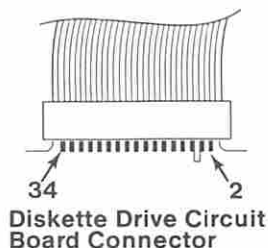

Figure 17. Voltage Check
- Power on the system and monitor the voltage at pin 26 of diskette drive A (Figure 17 on page 0600-26). The voltage should decrease from approximately 5 Vdc at the start of the POST to approximately 0 Vdc before the beep at the end of the POST.